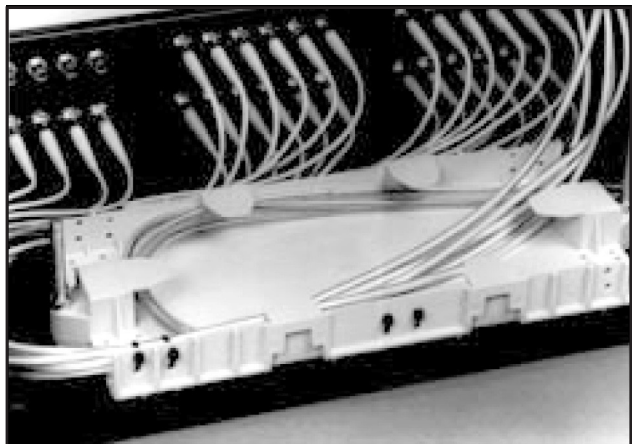

FIGURE 7 - ROUTE FIBERS IN TRANSITON ASSY
8.01 Route the fibers of the feeder cable fibers and the Pigtail Tube Assemblies within the Transition Assembly so that they will exit at the front left corner of the Transition Assembly. (Figure 7, see next page)
8.02 Use two tie wraps to gently secure the Pigtail Assemblies to the back right side of the Transition Assembly as shown in Figure 7 (see next page).